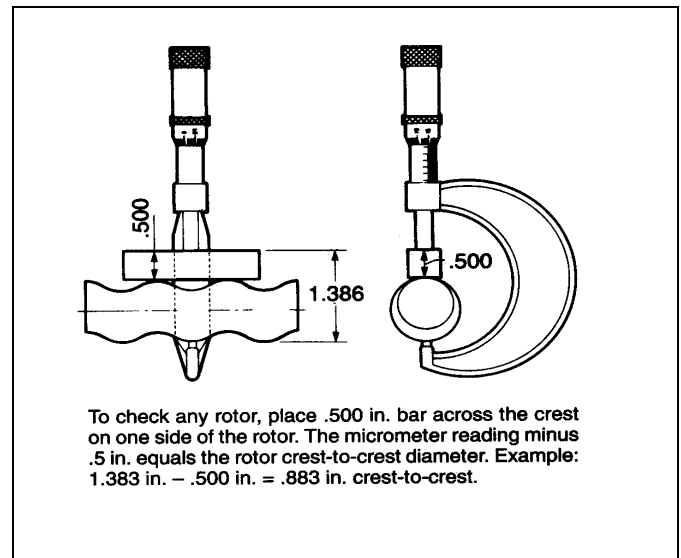

Figure 4-4. Measuring Rotor Diameter
1. To check for excessive rotor (5000) wear, measure the rotor crest-to-crest diameter (see Figure 4-4) and compare with the following chart: